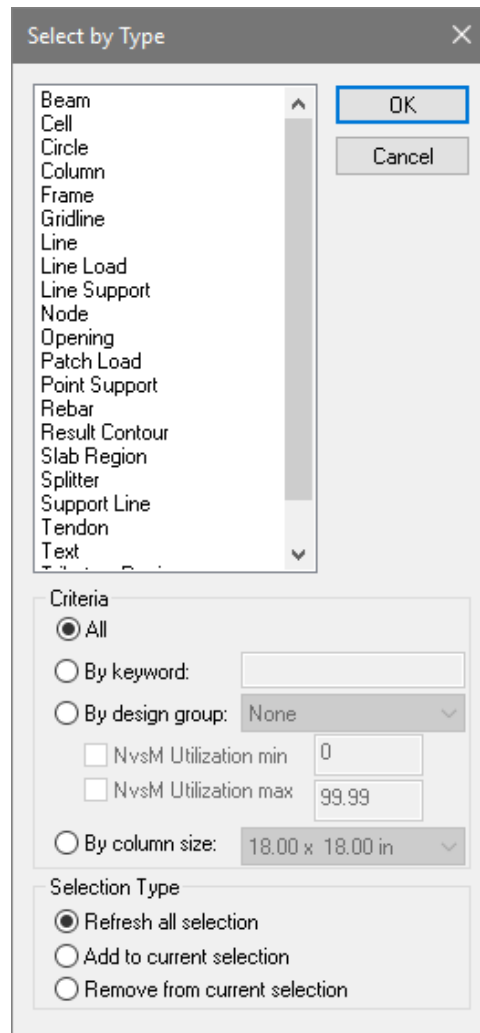

Figure 10-42
- Go to *Home* → *Selection Tools* and click on the *Select by Type* icon. This will open the *Select by Type* dialog window as shown in **FIGURE 10-42**.